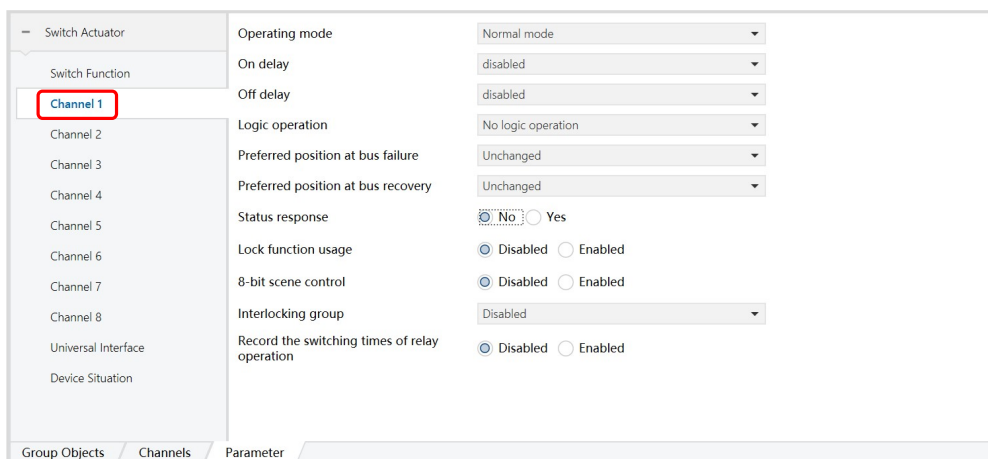

Figure 6.1.3
3) Click the options in the red box above to set the parameters of each loop respectively. Take Channel 1 as an example below, as shown in Figure 6.1.3